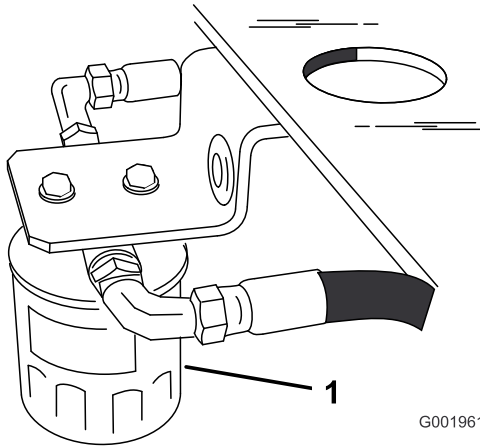

Figure 49
- Locate the filter under the fuel tank and place drain pan under filter (Figure 49).